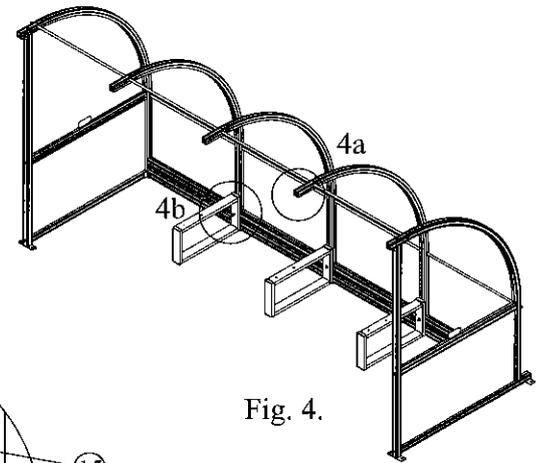
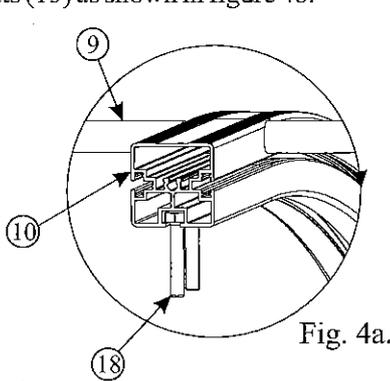
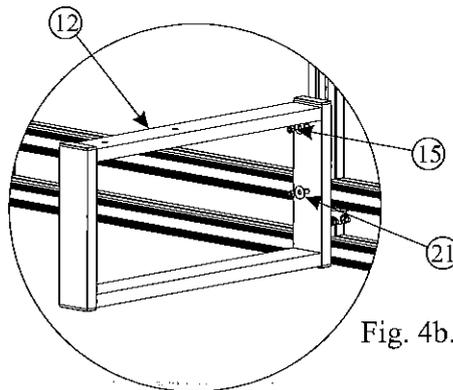

Fig. 4.
Fig. 4a.
Fig. 4b.
5 Lift the shelter into the upright position as shown in figure 4, ensure the bent supports are supported whilst lifting the shelter to prevent any damage. Once in position, slide two M8x45mm Hex Bolts (18) into the section of each of the Bent Supports as shown in figure 4a. Slide the bolts all the way to the bottom of the supports in preparation for fixing the seat supports. Line up the Seat Supports (12) with the Bent Supports as shown in Figure 4. Slide the M8x45mm Hex Bolts to the correct height to fit into the back of the seat supports as shown in figure 4b. Secure the Seat Supports in place by hand tightening two M8x25mm Washers (21) and two M8 Nylock Nuts (15) as shown in figure 4b.